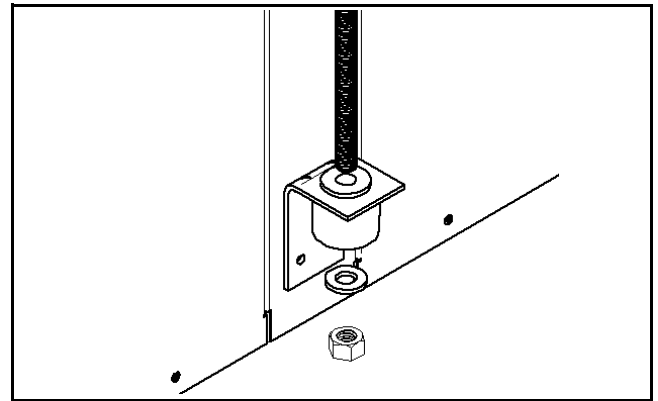

Fig. 8 Connecting the Threaded Rod to the Brackets
- Install the Rubber Vibration Isolator grommets onto the Brackets as shown in Fig. 8.
- Hang the unit and assemble the field-provided threaded rod, nuts, and washers on to the brackets as shown in Fig. 8.